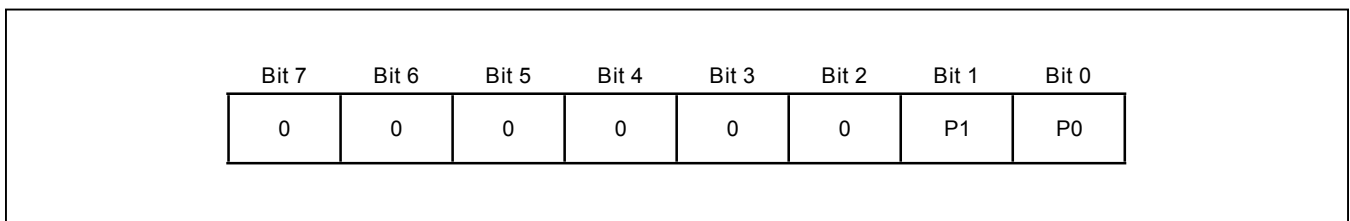

Figure 8. Pointer Byte
**Pointer Byte:** The pointer byte is used by the master to tell the DS7505 which register is going to be accessed during communication. The six MSBs of the pointer byte (see Figure 8) are always 0 and the two LSBs correspond to the desired register as shown in Figure 8.